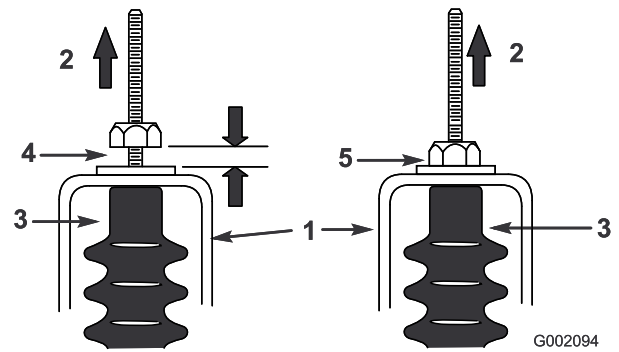

Figure 36
5. Pull up on each shift cable and ensure that there is a 0.03-0.06 inch gap between the nut/washer and the neutral bracket (Figure 36). If there is not a gap, adjust the nuts to achieve a gap of 0.03-0.06 inch.